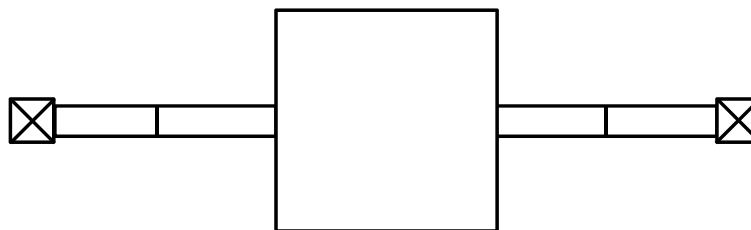

Figure 6
- (c) If each supporting beam is considered as consisting of two sections as shown in Figure 6. Find the steady-state temperature of each part if the final step function value of V_A is 1V.